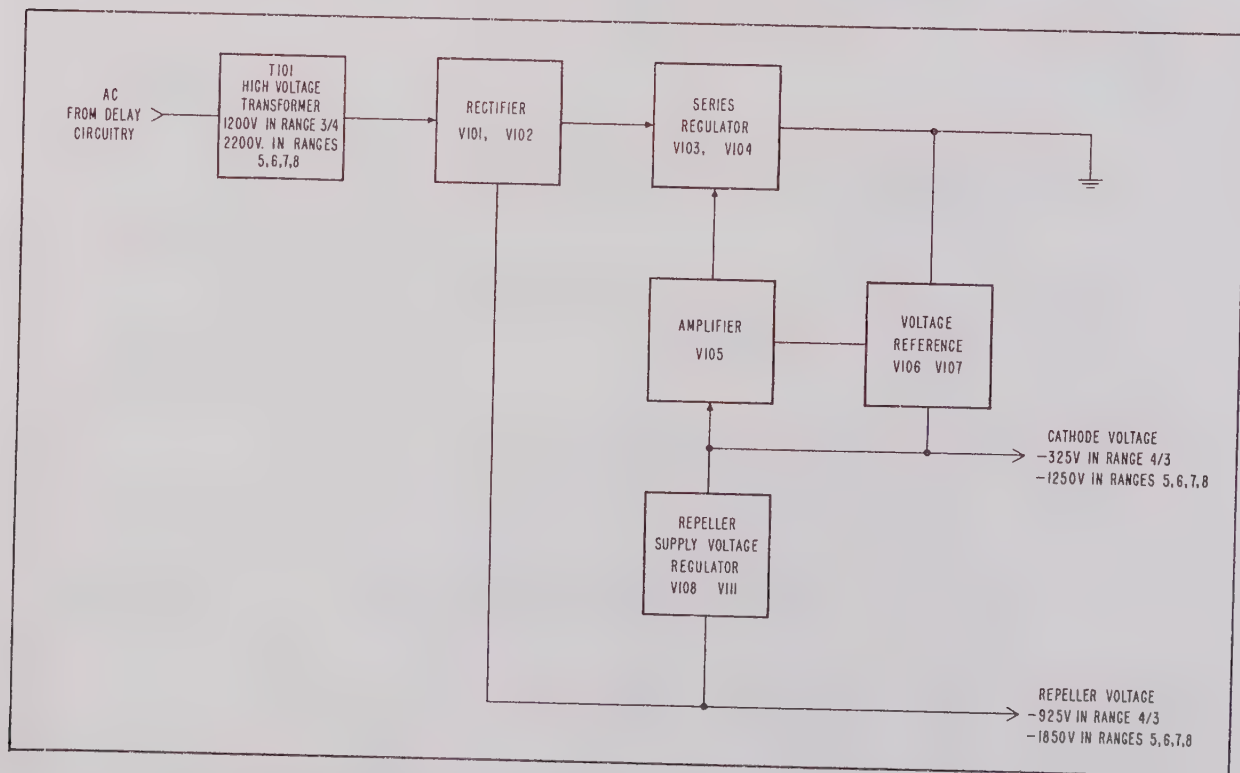

Figure IV-11. Block Diagram of Klystron Power Supply
c. KLYSTRON POWER SUPPLY. (Fig. IV-11)